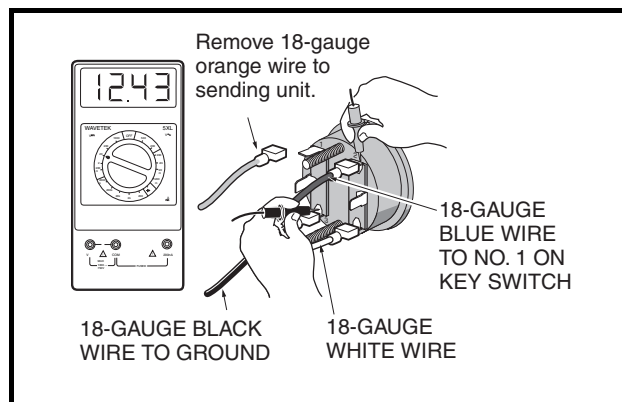

Figure 11-53 Fuel Gauge Test
7. Set a multimeter to 20 volts DC and place the red (+) probe of the multimeter on the (2) terminal of the fuel gauge/hour meter with the blue wire. Place the black (–) probe on the (3) terminal of the fuel gauge/hour meter with the black wire (Figure 11-53, Page 11-44).
9. Turn the key switch ON. The voltage reading should be the same as the battery voltage reading recorded earlier. If not, check the continuity of the blue and black wires (Figure 11-53, Page 11-44).